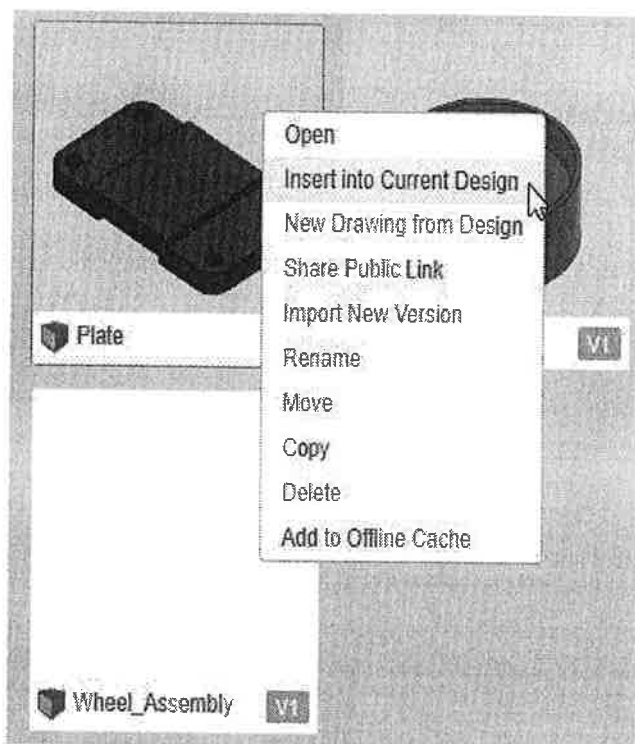

Figure 14-22
3. In the Data Panel, right-click on **Plate** and select **Insert into Current Design**, as shown in Figure 14-22.